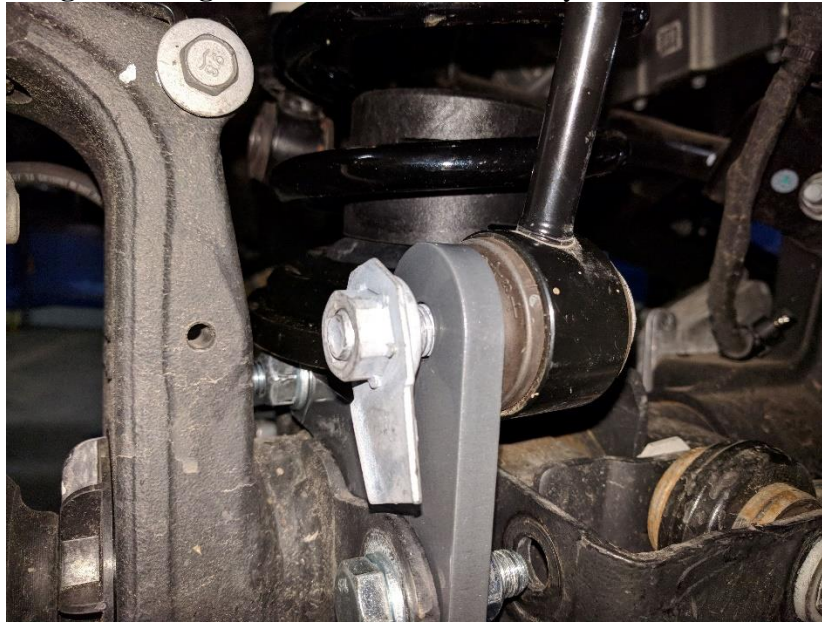

Figure 6. Re-Using Rear Sway Bar Links in the Front with Stock Hardware
8. Re-install sway bar end links with factory hardware in upper hole in Synergy sway bar relocation brackets. The bushing end of the link attaches to the axle, on the inside of the tab (towards the center of the vehicle). If re-using the factory rear sway bar links up front, you will need to re-use the factory flag nut as shown in **Figure 6**. **Figures 7 and 8** show correctly installed links.